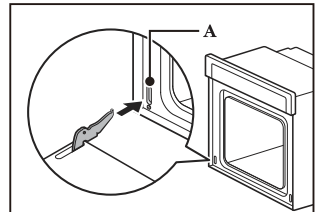

Fig.4
05. Locate the oven door hinge locks in the corners of the oven door, and rotate the hinge locks toward the oven cavity to the locked position. See Step 1 (Fig.4) in the “Remove Oven Door(s)” section for proper locked position.